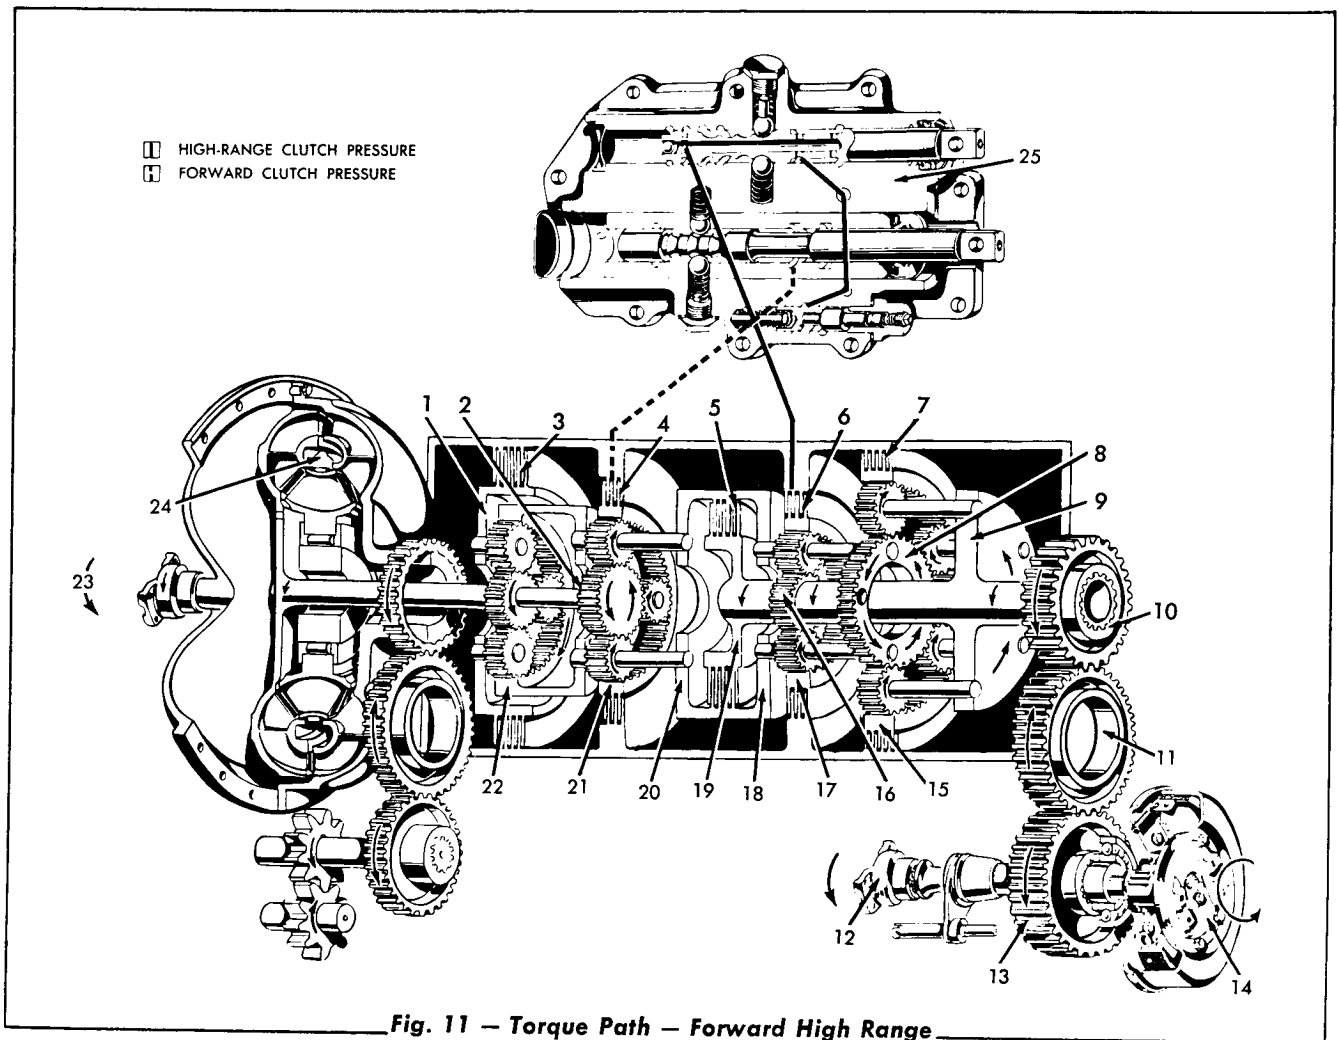

Fig. 11 — Torque Path — Forward High Range
5. High-Forward Range Torque Path (Fig. 11)